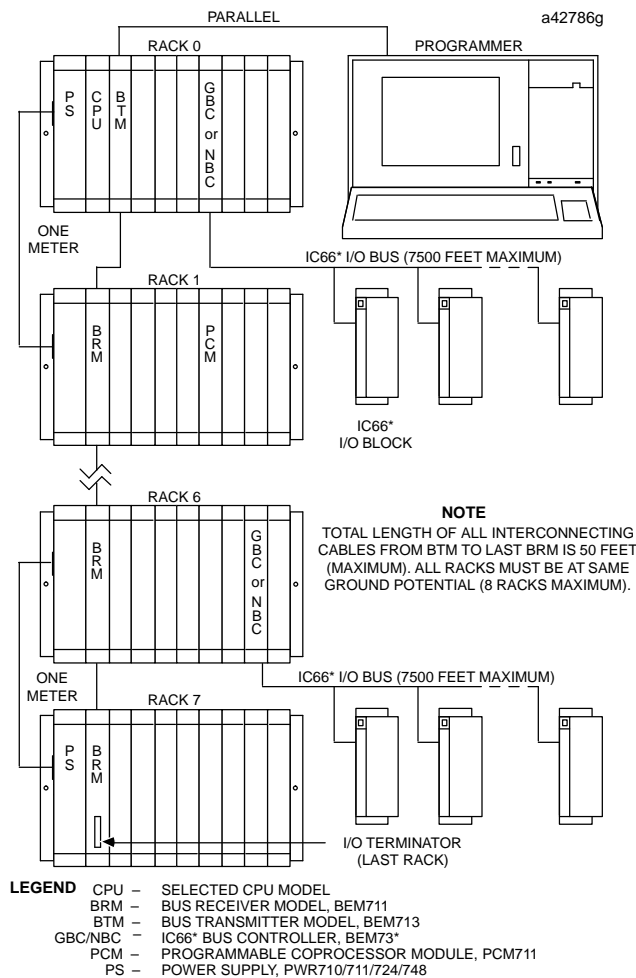

Figure 1. Typical PLC System Diagram
- Install in slot 1 of rack 0. (See Figure 1).